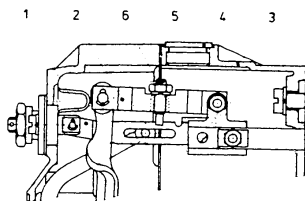

Fig. 2 New model
On the above-mentioned mechanical governors an adjustable link fork has been incorporated for some time (fig. 2). This governor unit is identifiable by the screw plug on top of the governor housing (item 4, fig. 2).
The new stop strap is now combined with the full-load stop to form one unit. Adjustment of the unlocking speed is made by means of the adjusting screw, accessible through a hole,  $M 22 \times 1.5$ , in the governor housing (item 6, fig. 2). This hole is sealed by means of screw plug 1.423.462.099 (item 4).
To avoid damage to the adjusting screw (item 6, fig. 2) it was necessary to recess the governor housing and governor cover (fig. 2). This necessitates a new seal between governor housing and governor cover (item 5, fig. 2). The new seal can also be used with the old governor housing, but the old seals cannot be used with the new housings. Old link forks and stop straps can be used with new governor housings and covers, but new link forks and stop straps cannot be installed in old governor housings and covers.